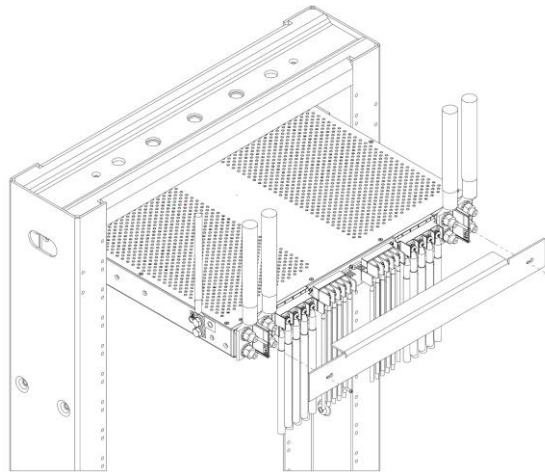
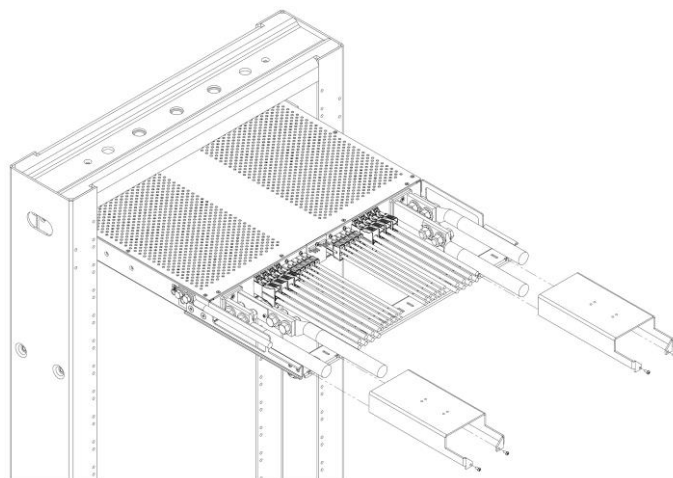
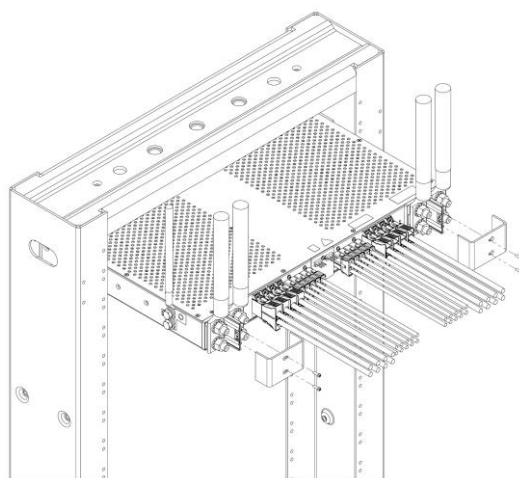

Fig. 2-23: Rear Cover (Standard Versions)
Fig. 2-24: Rear Cover (-C Versions)
Fig. 2-25: Rear Cover (-SC Versions)
63. Install rear plastic cover using provided hardware, as shown in Fig. 2-23, Fig. 2-24, and Fig. 2-25.